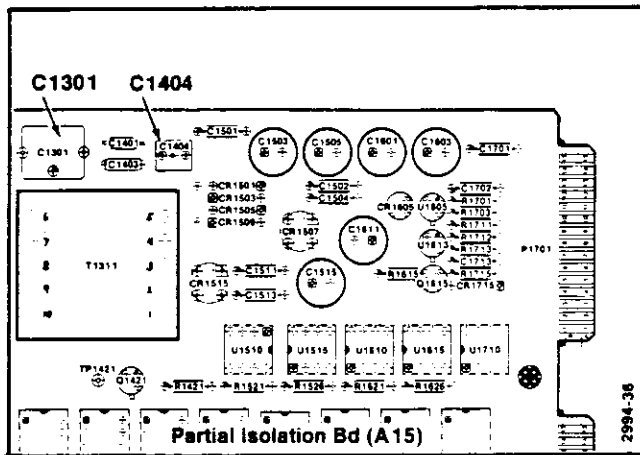

Fig. 7-6. Location of C1301 and C1404.
b. ADJUST—C1301 for minimum amplitude of the displayed square wave ( $\approx 33 \mu\text{s}$  period). Refer to Fig. 7-6.